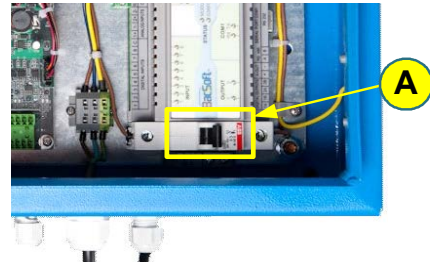

Figure 6-1: Control Module
- Step 4.** Locate the circuit breaker [A] in **Figure 6-1** and switch it to the **On** position.